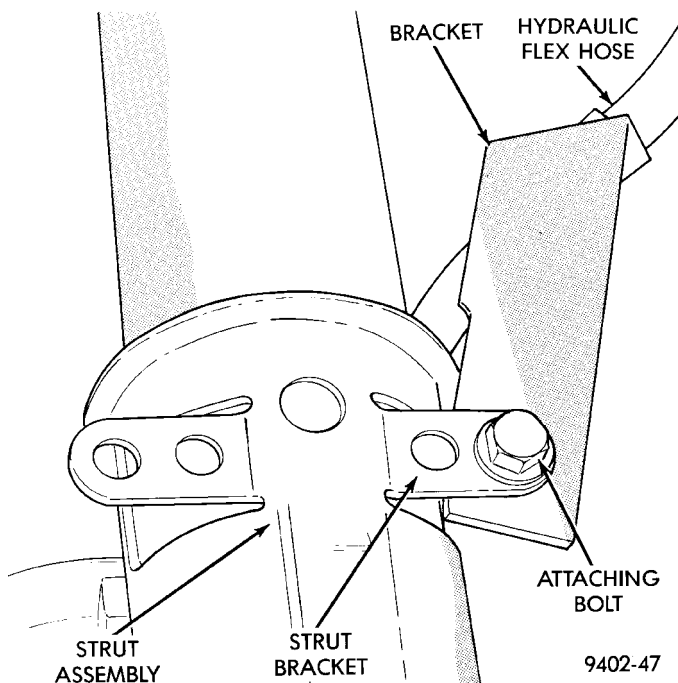

Fig. 4 Hydraulic Flex Hose Bracket Attachment To Strut
(1) Raise vehicle on jackstands or centered on a frame contact type hoist. See Hoisting in the Lubrication and Maintenance section of this manual, for the required lifting procedure to be used for this vehicle.
(2) Remove the rear wheel and tire assembly from the vehicle.
(3) Remove hydraulic flex hose bracket, from bracket on rear strut assembly (Fig. 4). If vehicle is equipped with Anti-Lock brakes, the wheel speed sensor cable routing clip is also attached to the strut assembly bracket.
(4) Support rear knuckle, suspension and brake components of vehicle before removing clevis bracket to knuckle attaching bolts. **Do not let weight of**
(5) Install hydraulic flex hose bracket, on strut assembly bracket (Fig. 4). Install and securely tighten bolt attaching hose bracket to strut bracket. If vehicle is equipped with Anti-Lock brakes, the wheel speed sensor cable routing clip is also attached to the strut assembly bracket.
(6) Install wheel and tire assembly on vehicle. Tighten the wheel mounting stud nuts in proper sequence until all nuts are torqued to half specification. Then repeat tightening sequence to full specified torque of 135 N·m (100 ft. lbs.).
(7) Lower vehicle to the ground.